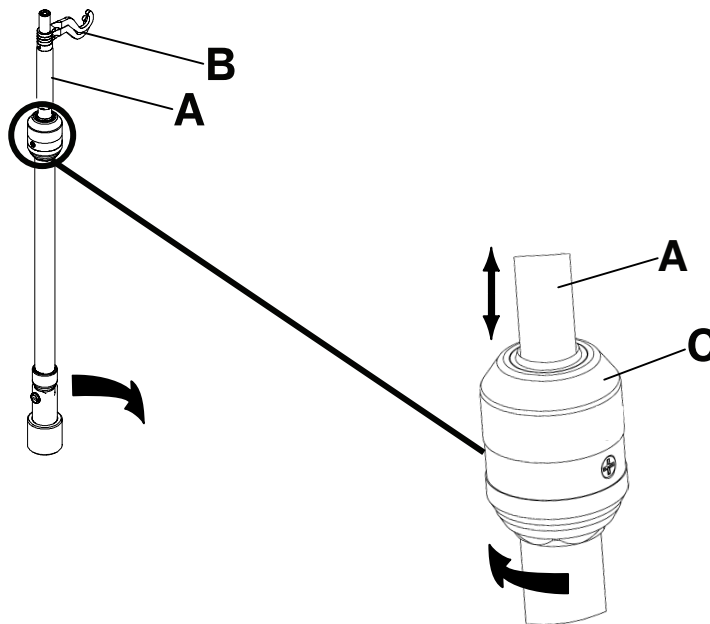

Figure 88: Operating the IV pole
3. To raise the height of the pole, pull up on the telescoping portion (A) until it locks into place at its fully raised position (Figure 88 on page 96).
4. Rotate the IV hangers to the desired position and hang the IV bags (B) (Figure 88 on page 96).
5. To lower the IV pole, turn the latch (C) until the telescoping portion lowers (Figure 88 on page 96).